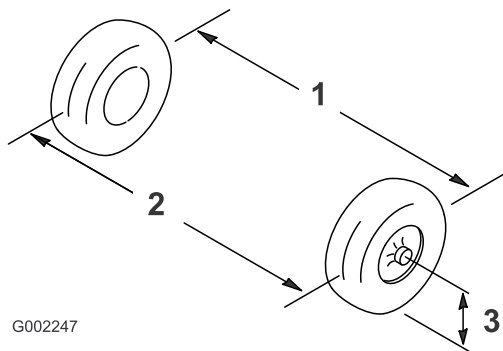

Figure 134
2. Measure the distance between of the front tires at the axle height at the front and rear of the front tires (Figure 134).